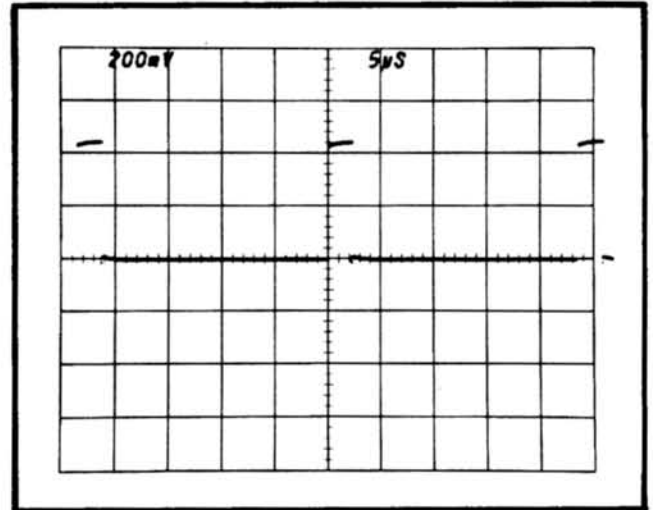

Fig. 5-13. CRT display when checking sweep holdoff time.
c. CHECK—The holdoff time is 3.5  $\mu$ s or less (see Fig. 5-13).